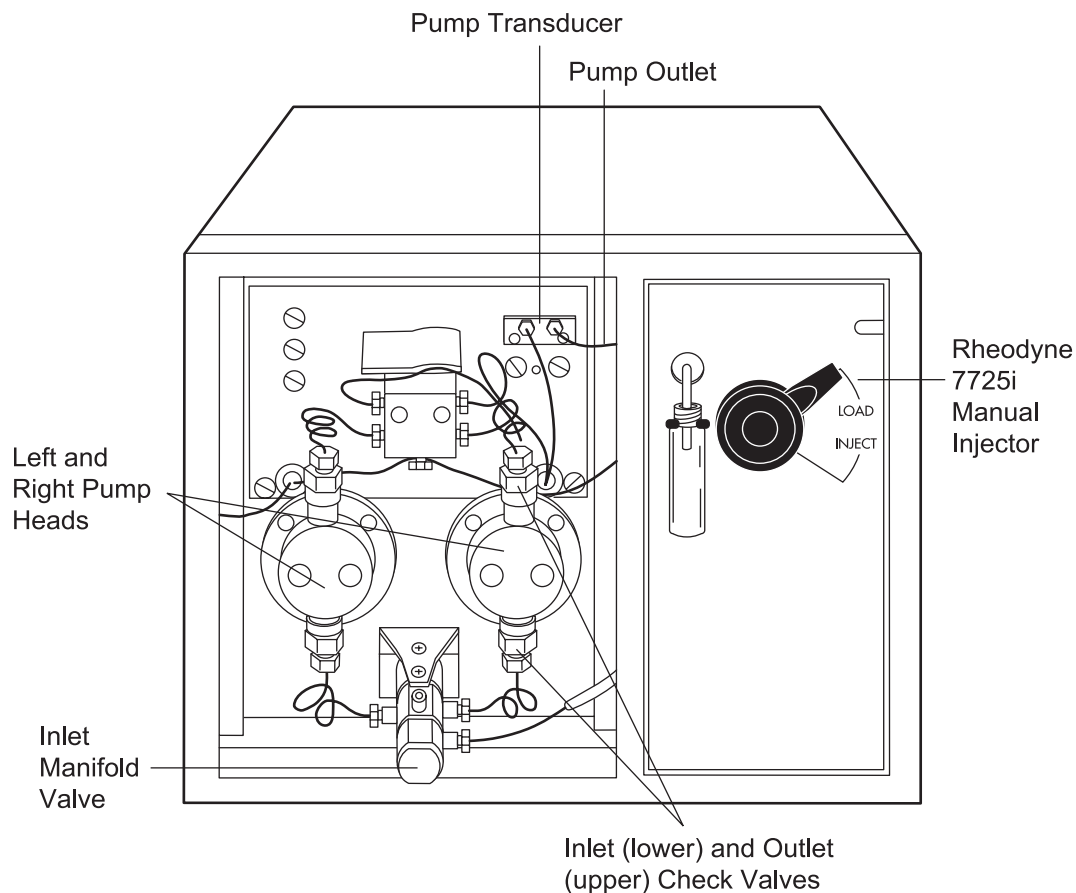

Figure 2-5 600E Pump Connections
Use Figure 2-5 as a guide.
1. Turn the latch on the front of the pump (see Figure 2-5) and pull out the slide-out drawer.